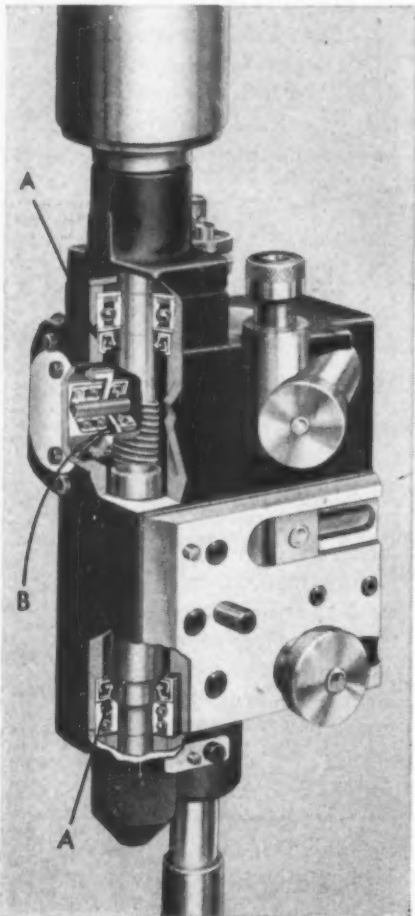
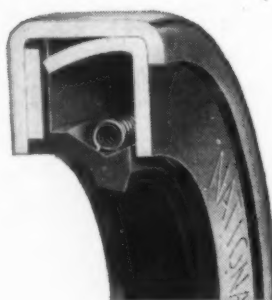

Figure 1
Figure 2
Two unusual shaft sealing problems are present in the rotary valve seat grinder for large gasoline and diesel engines (Fig. 1). Rotary speeds from 300 to 12,000 rpm, shaft whip, reciprocating action and extreme external abrasive conditions require oil seals of unusual dependability.
In the sectional drawing (Fig. 1), the main shaft driving the abrasive wheel rotates at 12,000 rpm. This shaft also engages a secondary worm gear to rotate the entire grinder around the periphery of the valve seat. National 50,000-S Syntech (Fig. 2) seals, spring-loaded, single wipe units are installed just inside the pre-loaded ball
bearings (A) on the main shaft and outside the conventional bearing (B) on the horizontal shaft (in Fig. 1). These seals retain a light lubricating oil in the open double row bearing (B) and the high-speed worm gear. Even though flooding is encountered, zero leakage performance must be achieved to prevent flooding of the grinding wheel. The high speed and angle thrust on this spindle result in shaft whip, which demands flexibility in the oil sealing members. National Syntech* oil seals are ideal for this application, because their inherent flexibility and carefully designed flex section provide effective sealing under eccen-